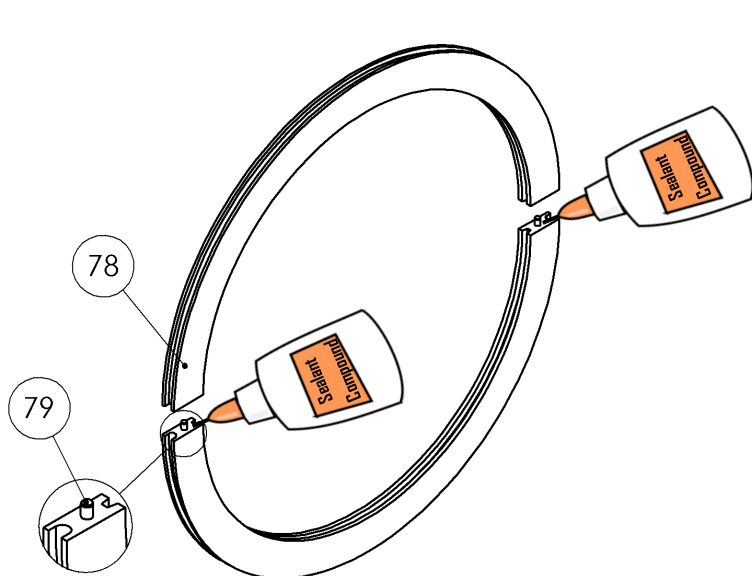
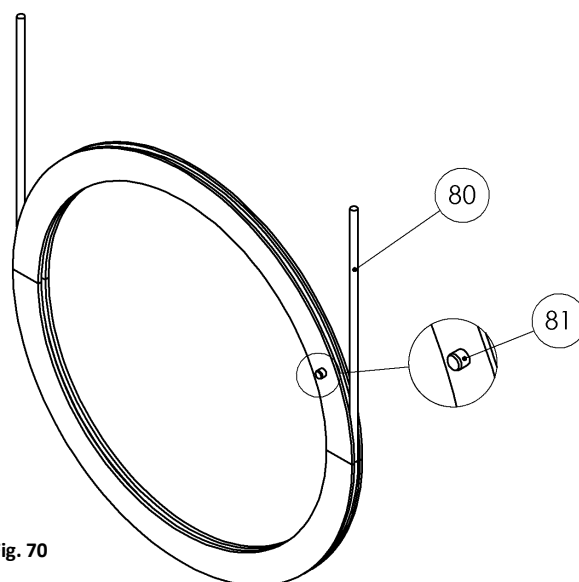

Fig. 69
Fig. 70
- Prepare the seal to installation by coating the surface of the split line with a thin film of non-hardening sealant compound (Fig.69).
- Joint the halves of the labyrinth seal (78) by the positioning pin (79), present in some seal bore diameters, placed at the split line.
- Insert the wire spring (80) in the sealing groove and lock the spring key (81) (Fig.70).